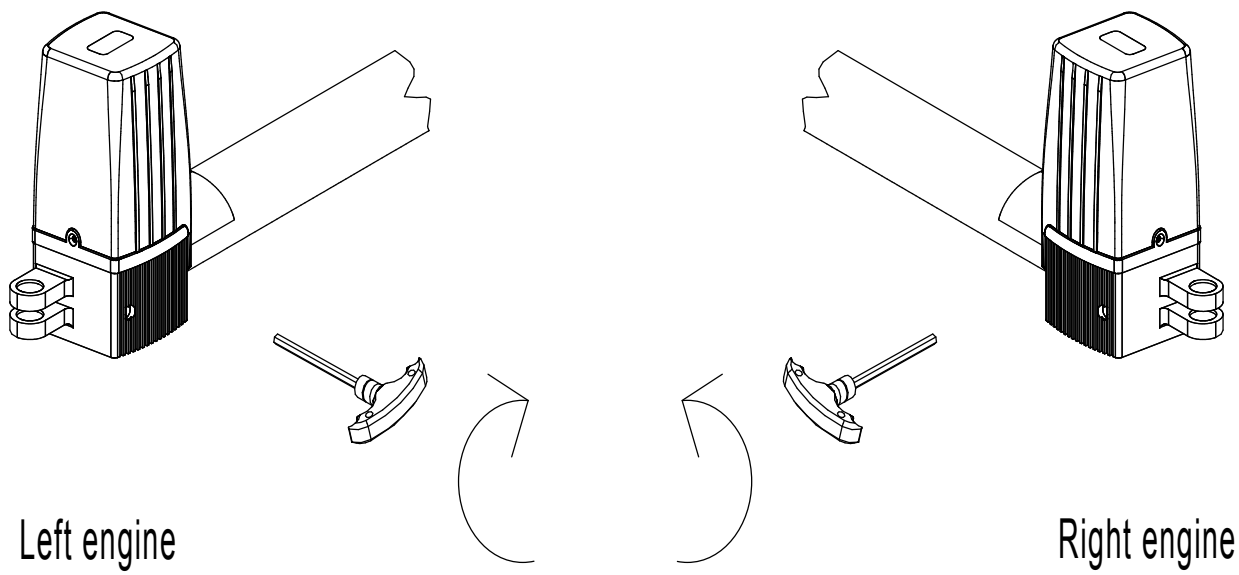

Figure 6
d) Before the installation, please unlock the main machine. Method: Remove the cover, insert the manual release bar, rotate the bar until the release, as shown in Figure 6, then turn the telescopic arm to make it easily stretch.